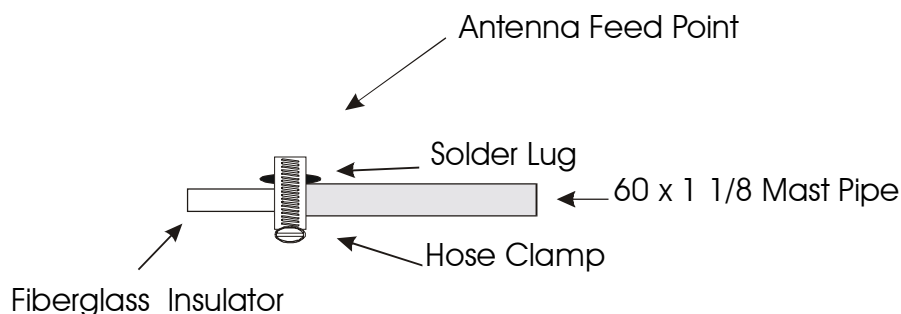

Figure 2
- [] 9. Now the hollow fiberglass insulator should be placed approximately 3 1/2" into the 60" x 1 1/8" aluminum tubing. See Figure 2.
- [] 10. Place one of the hose clamps around the aluminum tubing and snug the clamp using a 5/16" nut driver. The center conductor of the coax will be connected to the antenna using a solder lug placed under the clamp. Refer to figure 2.
The antenna may be quickly removed to be hidden from view. This is easily accomplished by loosening the hose clamp at the base of the antenna shown in Figure 2. Carefully pick up the antenna mast. Be sure to watch for overhead tree limbs and other objects that could come into contact with the antenna during removal. These objects could cause the antenna to become unbalanced and fall, resulting in personal injury and damage to the antenna. Store the antenna in a safe place to prevent damage.